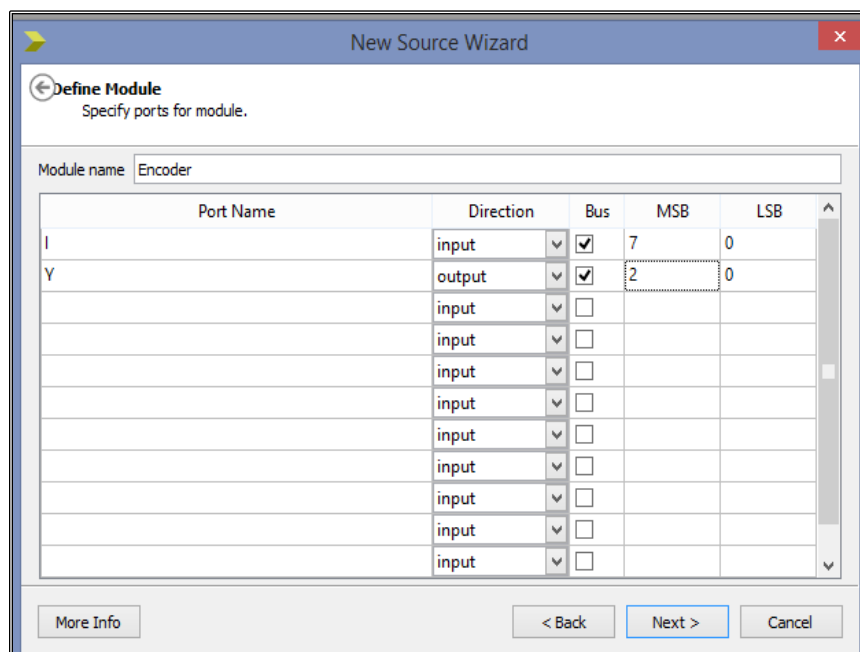

Fig 6.2: Module Definition
6. In the **Define Module** page, enter the port information for the “Encoder” as follows (Fig 6.2):